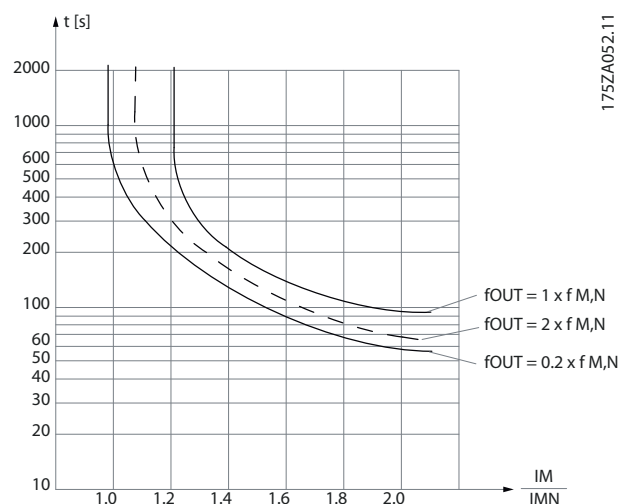

Figure 3.17 Electronic Thermal Relay Characteristics
- Electronic thermal relay (ETR) for asynchronous motors simulates a bi-metal relay based on internal measurements. The ETR measures actual current, speed and time to calculate motor temperature and protect the motor from being overheated by issuing a warning or cutting power to the motor. The characteristics of the ETR are shown in *Figure 3.17*.